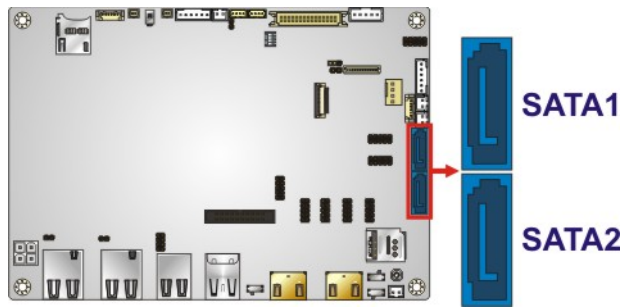

Figure 3-24: SATA 6Gb/s Drive Connector Locations
- CN Location:** See **Figure 3-24**